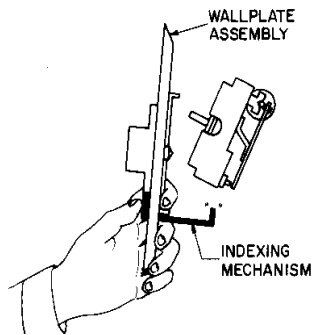

Fig. 2
1. Place the fan switch in the HIGH position which should fully actuate the indexing mechanism. (See Fig. 2).